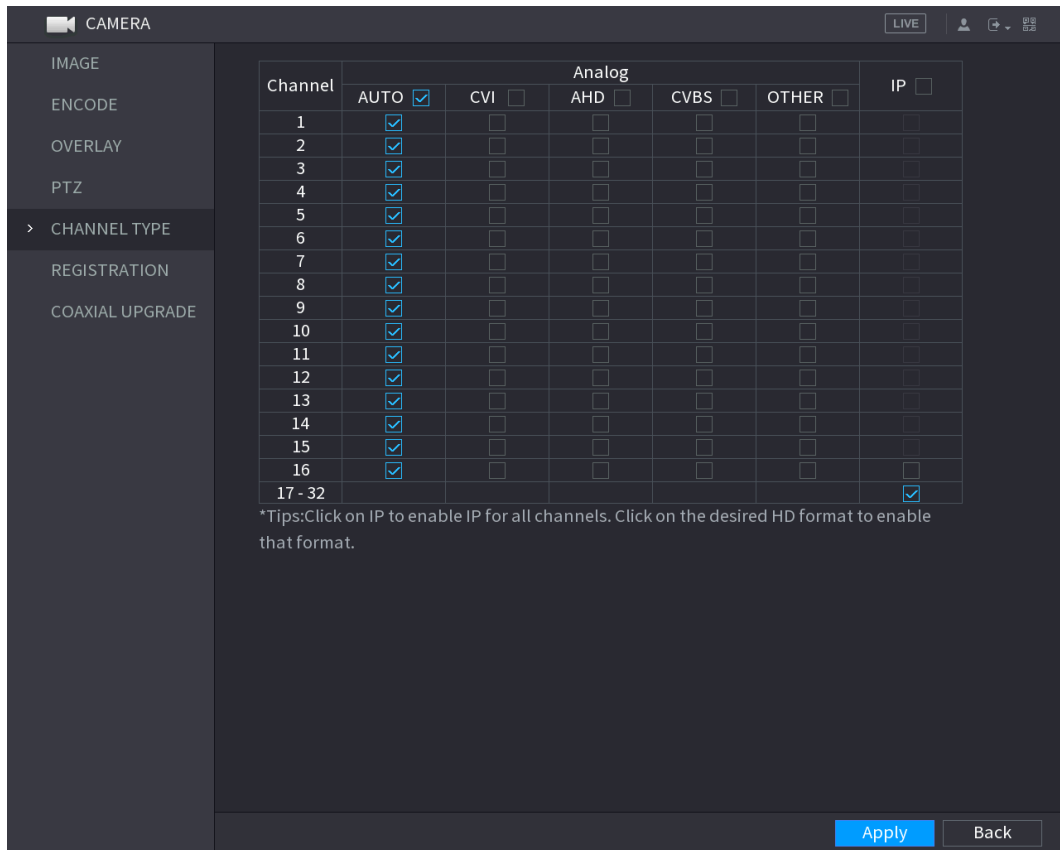

Figure 5-75
The **CHANNEL TYPE** interface is displayed. See Figure 5-75.
- IP Channel: You can enable the IP channels by disabling the corresponding analog channels. The Device also provides expanded IP channels for your use, such as the **17–32** channels in Figure 5-75.